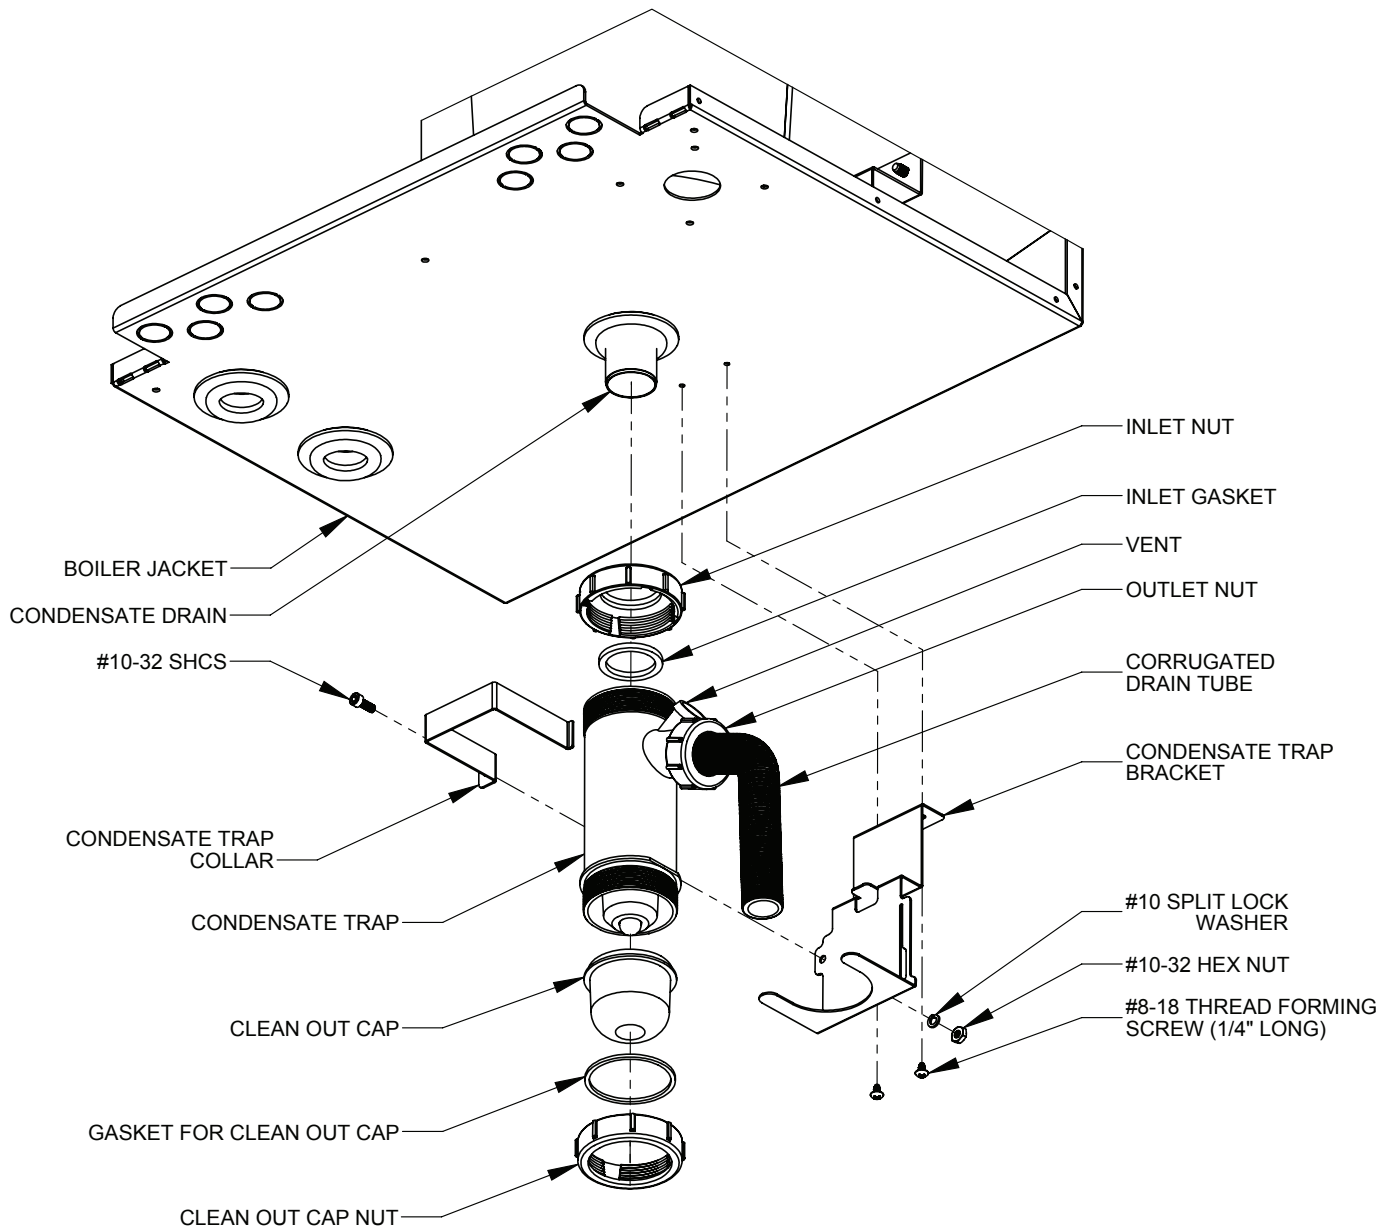

Figure 13.4: Condensate Trap Exploded Parts View
- o. **Inspect and clean the condensate trap**. Place a bucket under the condensate cleanout cap on the bottom of the boiler to catch water in the trap. Unscrew the cap. Flush any debris found in the trap with water – do not use other cleaning agents. Reassemble the trap as shown in Figure 13.4.